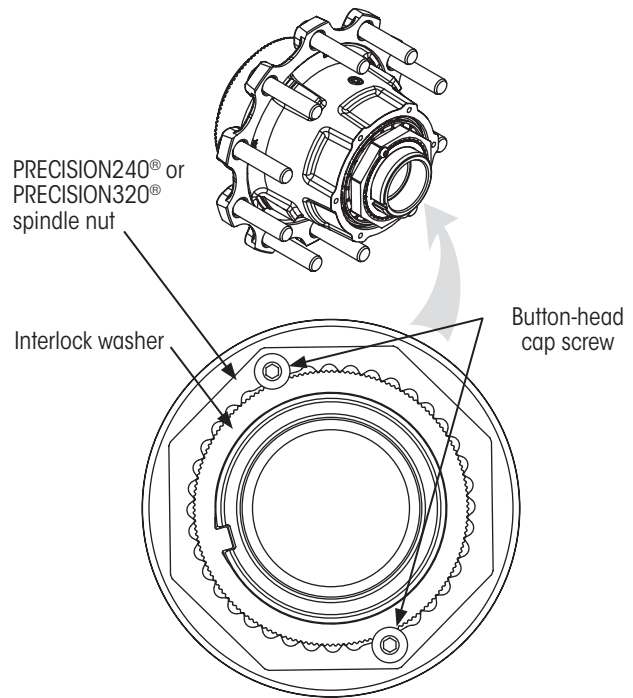

Figure 7: Button-head cap screw on a PRECISION240® or PRECISION320® nut system
7. Using a hex key (TOOLS REQUIRED on page 6), **remove** button-head cap screws from interlock washer Figure 7.